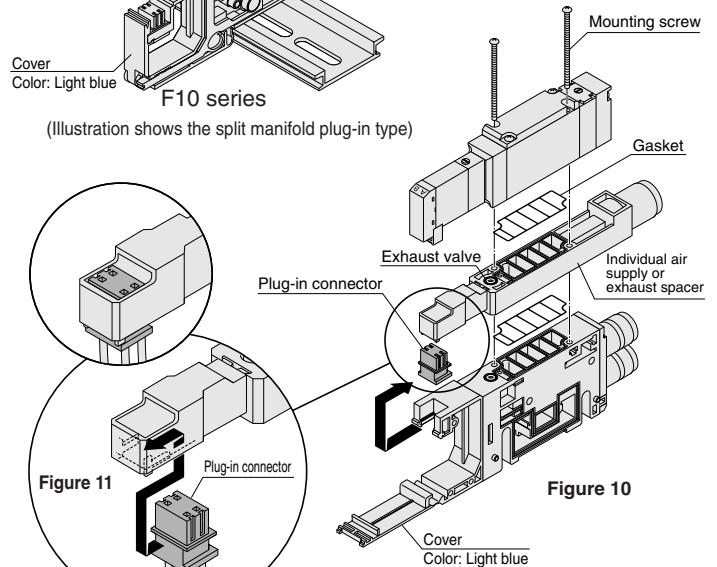

Figure 10
- Open the cover of the manifold, and pull out the plug-in connector in the near side direction (for the plug-in type) (see Fig. 10).